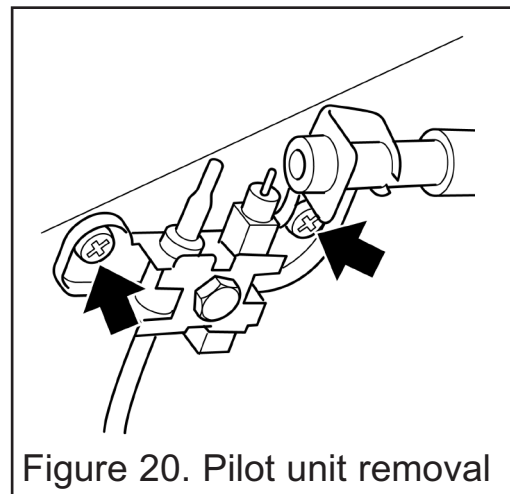

Figure 20. Pilot unit removal
5. Remove the two screws securing the pilot unit (See figure 20).